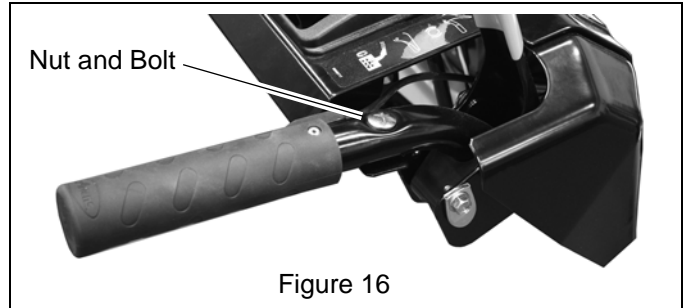

Figure 16
22. Remove nut and bolt located in handlebar on right side of machine. See Figure 16.